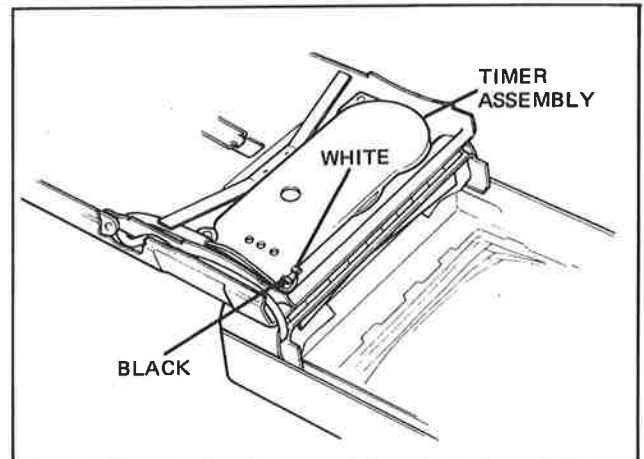

FIG. 4-6 UNSOLDERING THE TIMER LEADS
- c. Solder the black and white leads to the timer (see Figure 4-6).